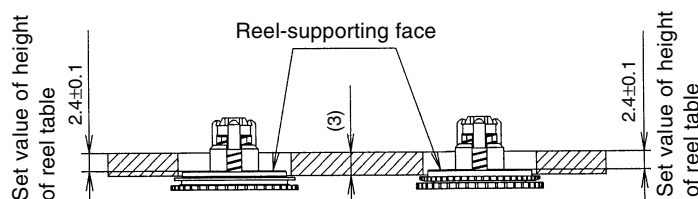

Fig.3
- (4) Using a pair of vernier calipers etc., measure the heights of the reel-supporting faces of the S reel table and Tu reel table from the top face of the master plane and check that the measured heights satisfy the set values. (Fig.3)